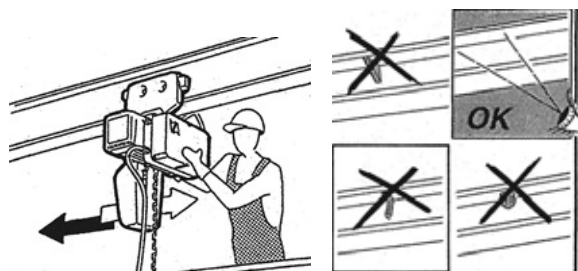

fig.29
3. The girder must be in perfect condition. Manually check that the hoist trolley moves freely along the entire length of the beam. (fig.29)
There must be no snagging points or obstacles (screws, welds, hooks, etc.) along the section where the trolley moves that could cause irregular movement; if there are, take action. (fig.29)